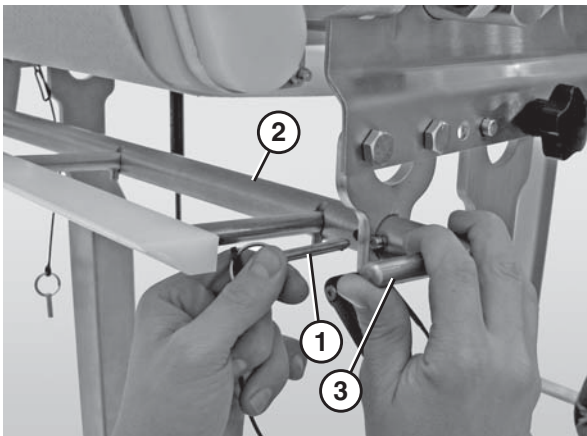

Figure 13
6. Insert the pin (Figure 13, item 1) to lock the scraper bar in place (Figure 13, item 2).
7. Adjust the scraper to the desired position using the scraper bar handle (Figure 13, item 3).